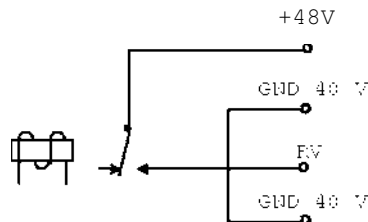

Fig. 7
The MED is not intended for the power supply of the solenoid valves assembled in the hydraulic power unit that must be handled totally by the lift control panel. To manage them, please refer to the manual *"Simplified installation instructions for the drive MED-UP sensorless"* – pages 14/21, 15/21, 16/21, 17/21, 18/21, 19/21 and 20/21. Also the valve (or device) that allows the motor to start in upward direction without any load should preferably be managed by the lift control panel; alternatively, however, it is also possible to control it directly using the MED. The MED internal electrical configuration is the one in fig. 7. The relay is normally open. The supply of the solenoid valve is external and could be whichever d.c. or a.c. voltage, for example 24 Vdc, 48 Vdc or 110 Vac, 230 Vac, etc. It has to be supplied to terminals 1 (GND 48 V) and 2 (+ 48 V) of the connector "COMMAND SIGNALS" (see the manual *"Simplified installation instructions for the drive MED-UP sensorless"* – page 8/21); on the other hand the solenoid valve (or device) that allows the motor to start in upward direction without any load has to be connected to terminals 3 (GND 48 V) and 4 (RV) of the same connector. **Do not connect together GND 48 V to any other GND present on the connector of the MED.**